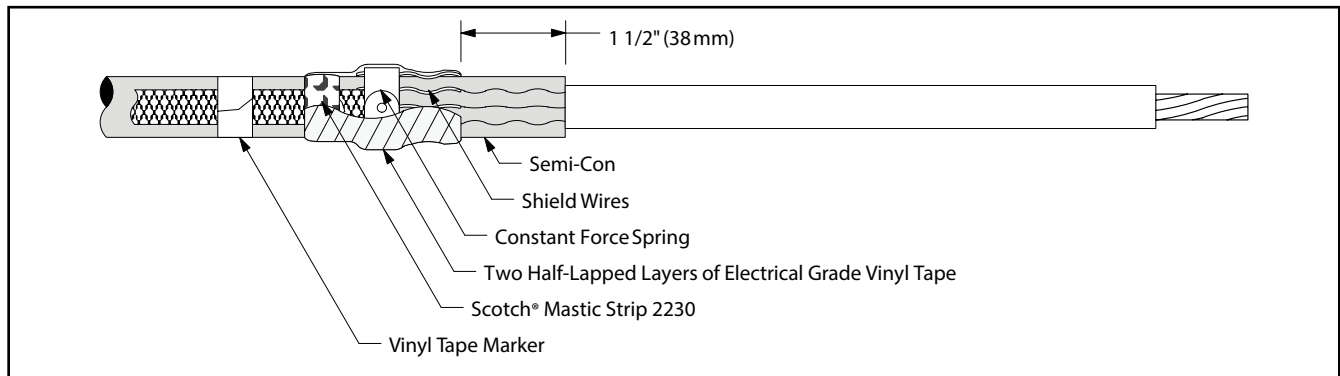

Figure 22
12.5 Wrap two highly stretched half-lapped layers of electrical grade vinyl tape around mastic seal, constant force spring and exposed shield wires (*Figure 22*).